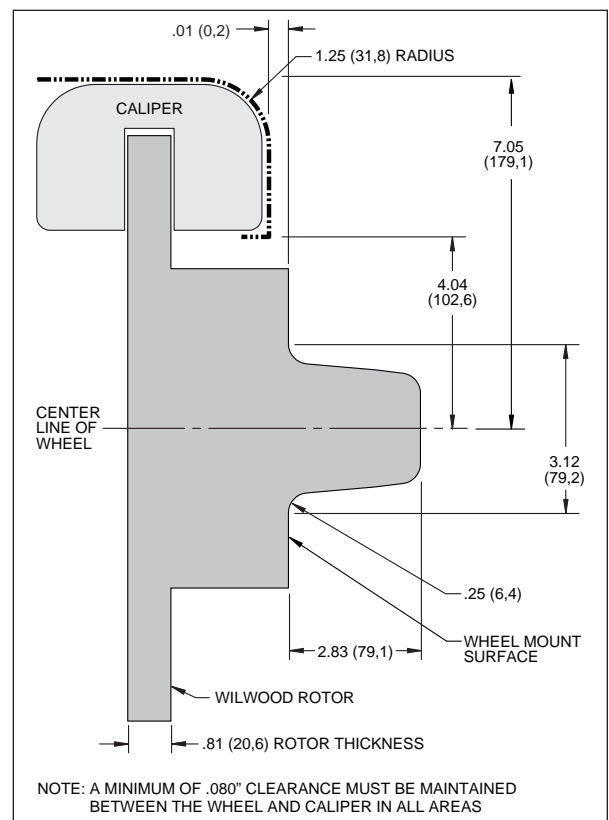

Figure 2. Wheel Clearance Diagram
- Verify wheel clearance utilizing Figure 2.
- Verify the new hub stud pattern in this kit matches the lug pattern of the vehicles wheels. It is important that the center hole clearance be 3.13" or larger to clear hub snout in the kit, Figure 2.